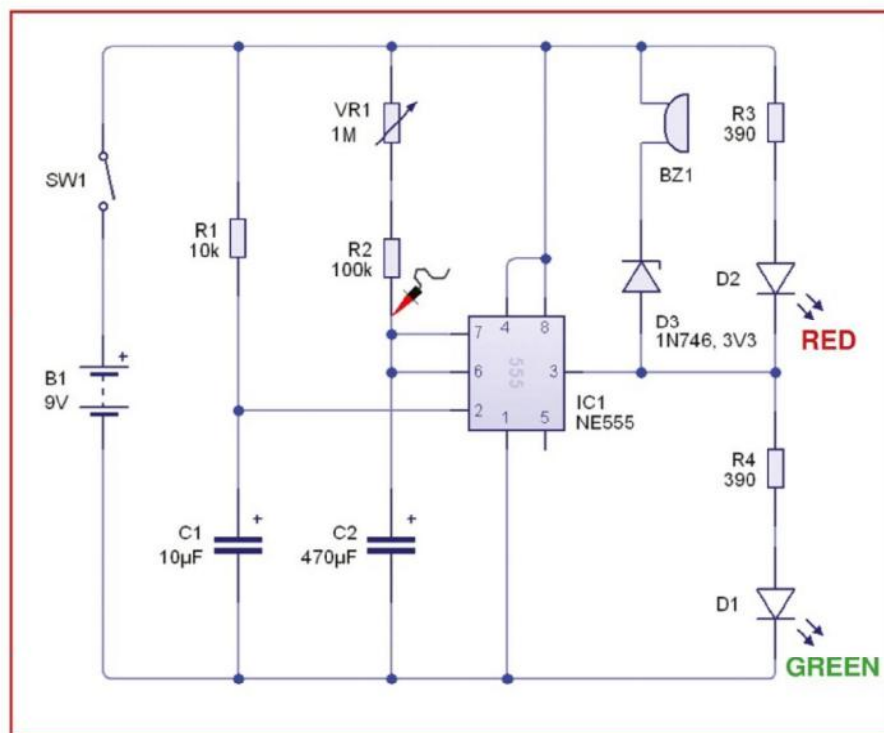

Fig.4. Complete circuit of the egg timer
The complete circuit of the *Egg Timer* is shown in Fig.4. In order to initiate a timing cycle when the circuit is first switched 'on', C1 momentarily holds the potential at the trigger input (pin
**N**OW we've looked at the theory behind the *Egg Timer* circuit, let's see it in operation. Enter the circuit using Circuit Wizard by dragging the appropriate components from the gallery on the right and connecting them up appropriately. Your finished circuit should be similar to that shown in Fig.4.